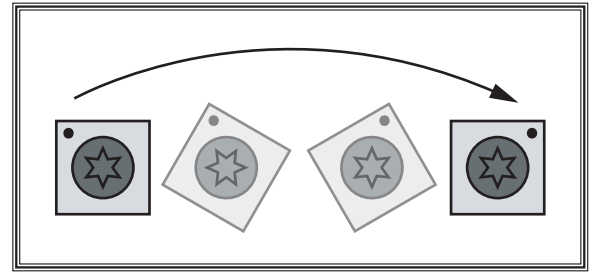

Figure 30. Insert rotating sequence.
6. Rotate insert 90° and install so that a fresh cutting edge faces outward (see Figure 30).